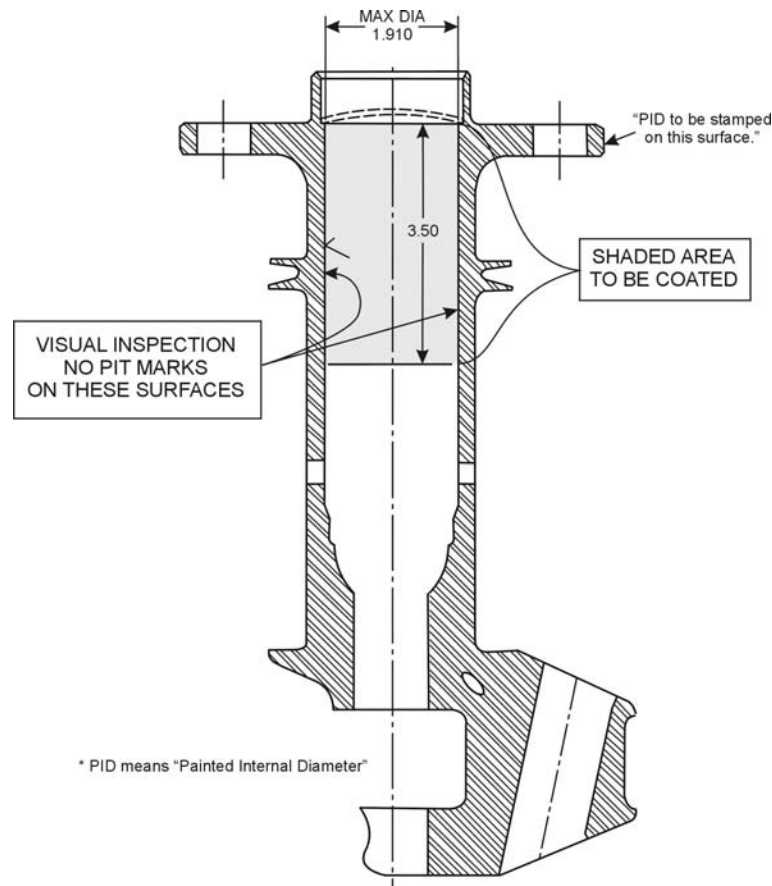

Figure 1. Area to be Coated
6. Apply coating using a 4" long nap paint roller replacement sleeve #54011\*\* or equivalent attached to a length of 1/4" rod. Apply one coat to the 3.50" I.D. surface shown in Figure 1. Coverage must be 100%. Air dry for a minimum of 45 minutes at room temperature. Apply a second coat over the same surface. Coverage must be 100%.